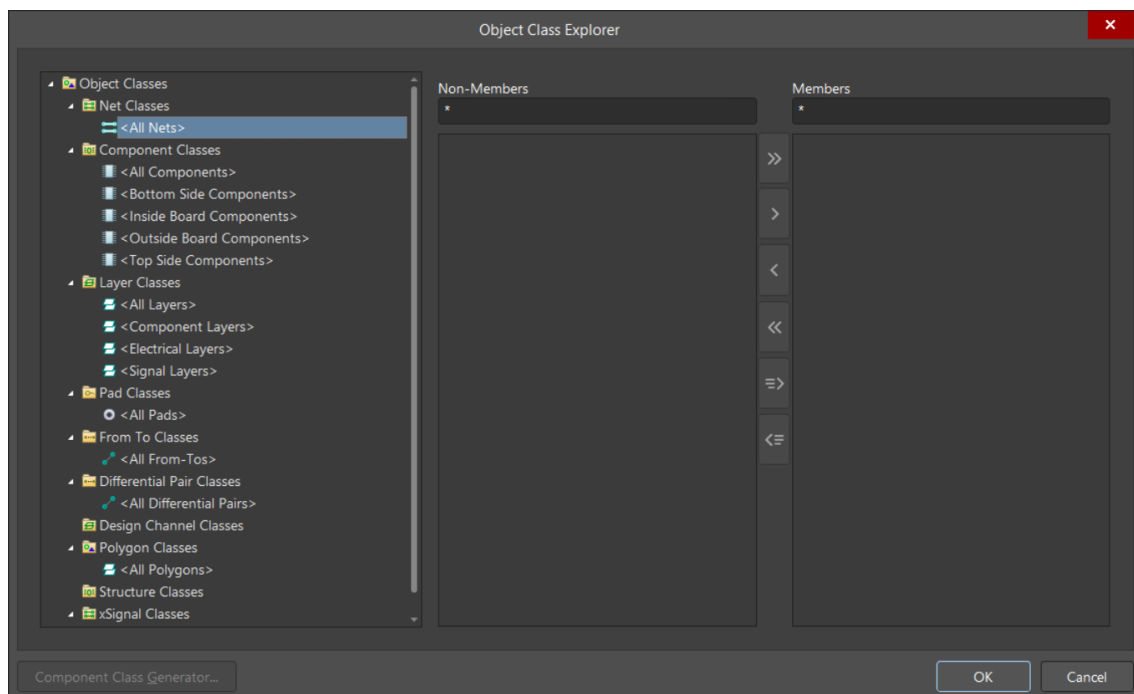

Figure 1. *Object Class Explorer*, note no pre-defined classes *Amp* and *Volt*
10. Go to **Design » Classes** to open the *Object Class Explorer*, as shown in Figure 1.